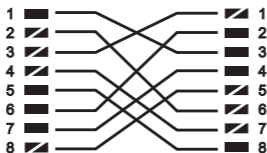

Fig. 27
- (A) Connect one end of an Ethernet cable to the Ethernet port on charger carry case. Connect the other end to a PC Ethernet port.
- (B) PC networking enables multi monitoring and controls.
- (C) Ethernet cable wiring, Fig. 27: